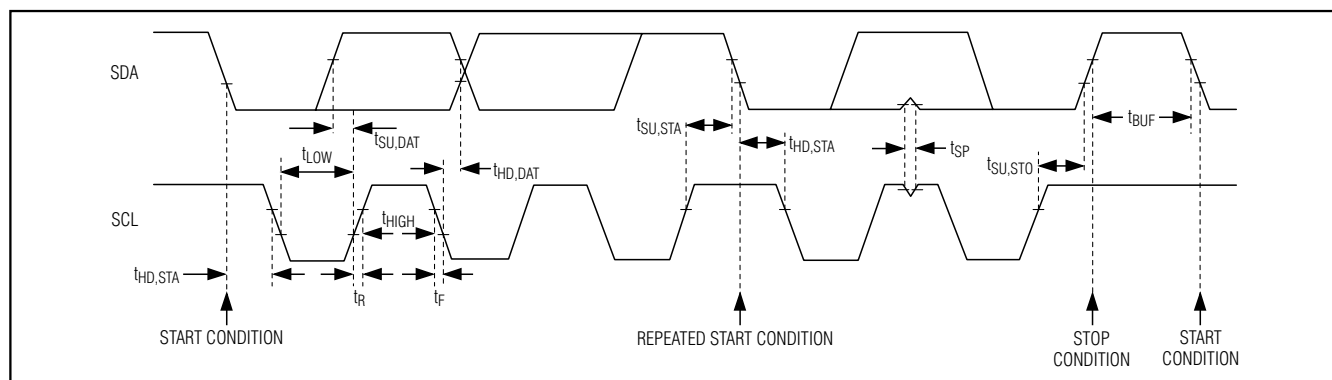

Figure 6. 2-Wire Interface Timing Diagram
The MAX9860 features an I2C/SMBus™-compatible, 2-wire serial interface consisting of a serial-data line (SDA) and a serial-clock line (SCL). SDA and SCL facilitate communication between the MAX9860 and the master at clock rates up to 400kHz. Figure 6 shows the 2-wire interface timing diagram. The master generates SCL and initiates data transfer on the bus. The master device writes data to the MAX9860 by transmitting the proper slave address followed by the register address and then the data word. Each transmit sequence is framed by a START (S) or REPEATED START (Sr) condition and a STOP (P) condition. Each word transmitted to the MAX9860 is 8 bits long and is followed by an acknowledge clock pulse. A master reading data from the MAX9860 transmits the proper slave address followed by a series of nine SCL pulses. The MAX9860